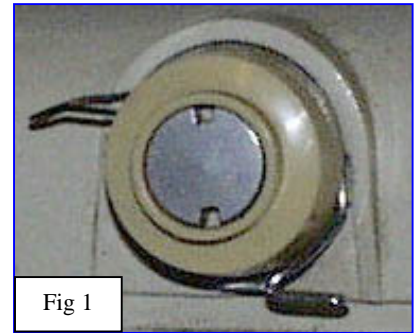
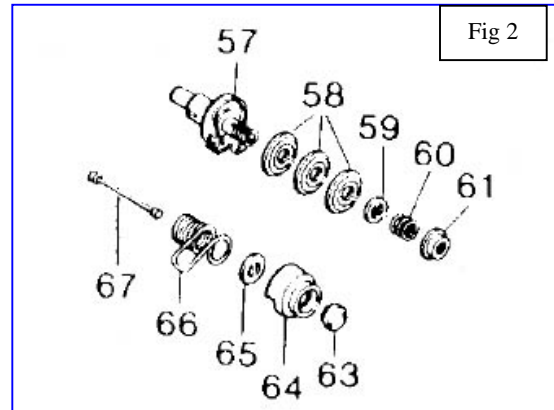

Fig 1
Fig 2
Shown to the right, fig 1, is the basic T&S top tension unit
Lets break it down and become familiar with the parts, fig 2
1. Using the rounded end needle nose pliers, or other tool available, remove the tension cap regulator nut. Turn counter clockwise, fig 1
2. Remove the plastic tension cap, and inspect for any damage. This part should be free of nicks, or other areas that could snag the thread during sewing. If it is damaged in anyway, replace, or repair so it is smooth on all back side surfaces, fig 1 arrowed
3. Remove the tension cap friction washer, shown on previous page, item 65 in the parts section
4. Remove the tension releasing pin's holding clip, fig 2 circled, pull straight up on it
5. Using the 5/64th Allen wrench, loosen the setscrew, fig 2 top arrow
6. Remove the top tension unit from the arm top cover. Note: pay attention to the releasing pin, as it fits into a little cupped area in the tension adjusting arm, fig 2 bottom arrow
1. Figure 1 shows us the tension stud disassembled. Normally this unit does not come apart as such. However in our case the plastic part (circled in fig 1) that holds pressure for the check spring is cracked and will require repairing. We may simply glue this part to the metal stud for the time being
2. Once repaired, reassemble the tension stud. Observe that the middle part in fig1 fits onto the stud snugly, and actually rides on a little ringed area of the stud – shown in fig 1 by the arrow
Common problems are the plastic part on the tension stud breaking, allowing the check spring to lose proper return pressure, the discs are full of crud, or rusted up, and finally the check spring itself was damaged. These items have been corrected with the above procedures, so actually the machine should be ready for use again. However, should you need to adjust the tension, fig 1 arrowed shows the adjusting screw. With the arm top cover off the machine, turn the tension dial to zero (0).
1. Thread the machine to the discs, ensure you don't hold the arm top cover as to activate the releasing mechanism, fig 1 circled
1. Turn the pressure dial to "Darn" or "Zero", fig 1
2. Loosen the setscrew shown in fig 2, and work the presser bar unit downward, working the thread guide with it